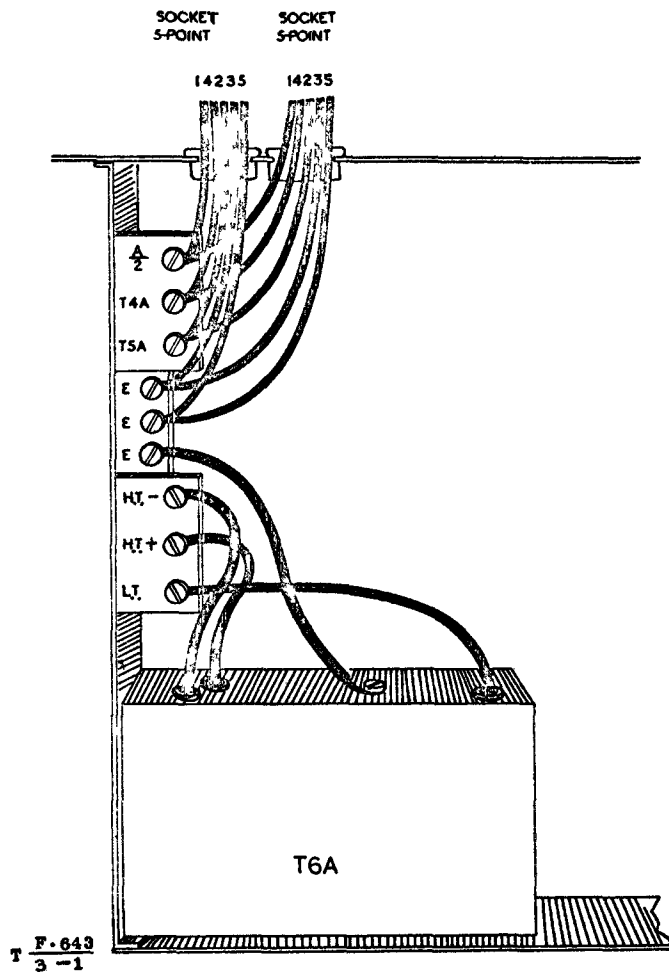

Fig 1 - Connections to the rotary transformer or P.S.T. No 36
15. To reach the rotary transformer for changing brushes, etc, remove the baseplate and disconnect the wires connecting the transformer to the set at the terminal blocks fitted in the side of the chassis (Fig 1). Place the set right way up on a bench and remove the two rubber-mounted screws at the rear of the chassis at the back of the a.t.i. The rotary transformer and associated smoothing components can now be removed as one unit. The transformer is mounted on the bottom half of the case when it is placed right way up (as in the set). The remainder of the case can be removed by